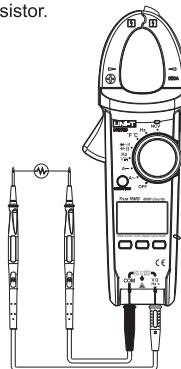

Fig. 7
**6.Measurement of resistance (shown as Fig. 7)**